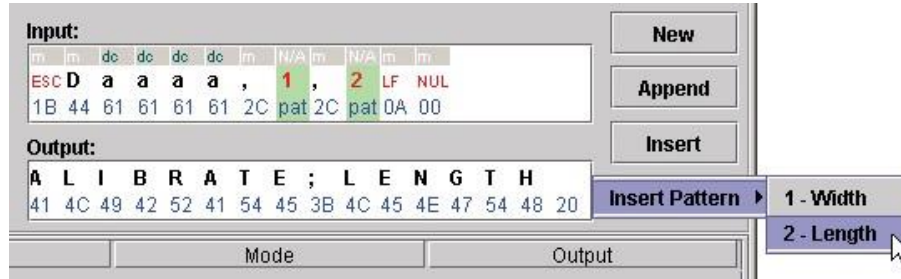

Figure 156 Entering the Output String
30. Right-click at the insertion point and select **Insert Pattern ► 2 - Length**. See Figure 156.